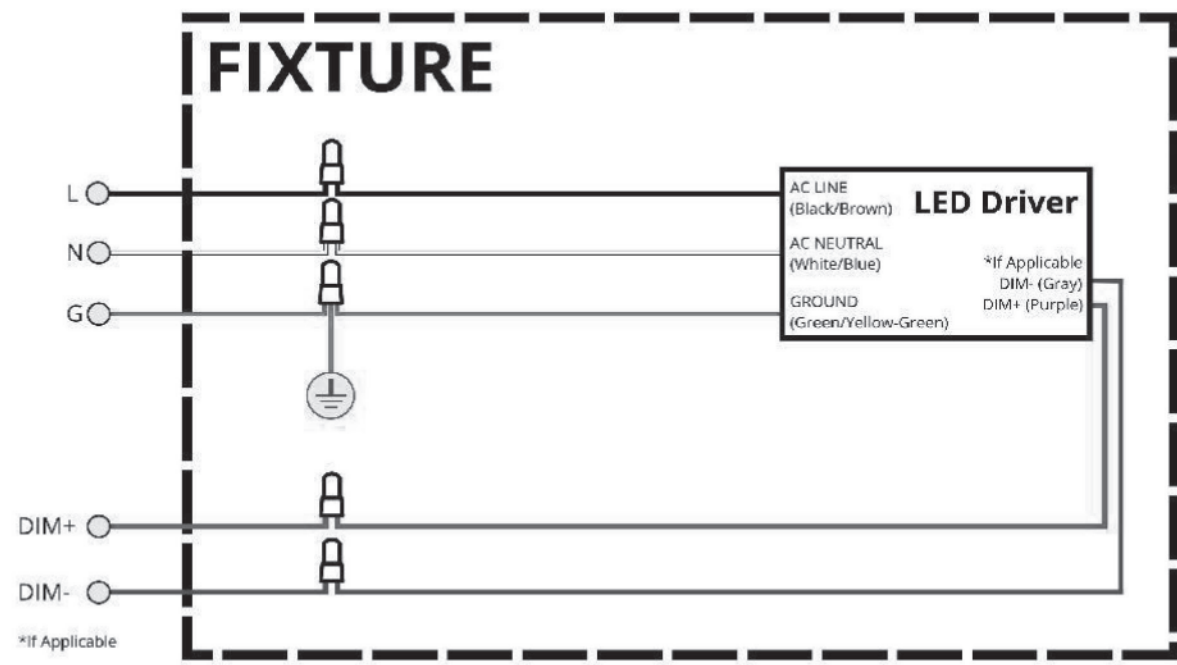

Figure 3.
- Splice power connections as seen in Fig. 3.